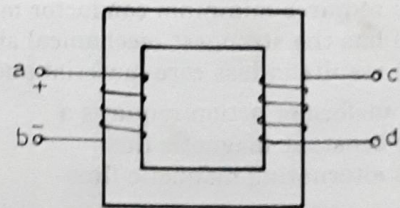

Fig. C.43.
20. In a single-phase transformer, polarities of terminals a and b at any instant are shown in the Fig. C.43. At the same instant,